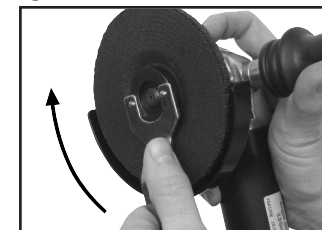

Fig. 6
5. Locate the pin wrench into the two holes on the flange nut (See fig. 6) and hand-tighten further.